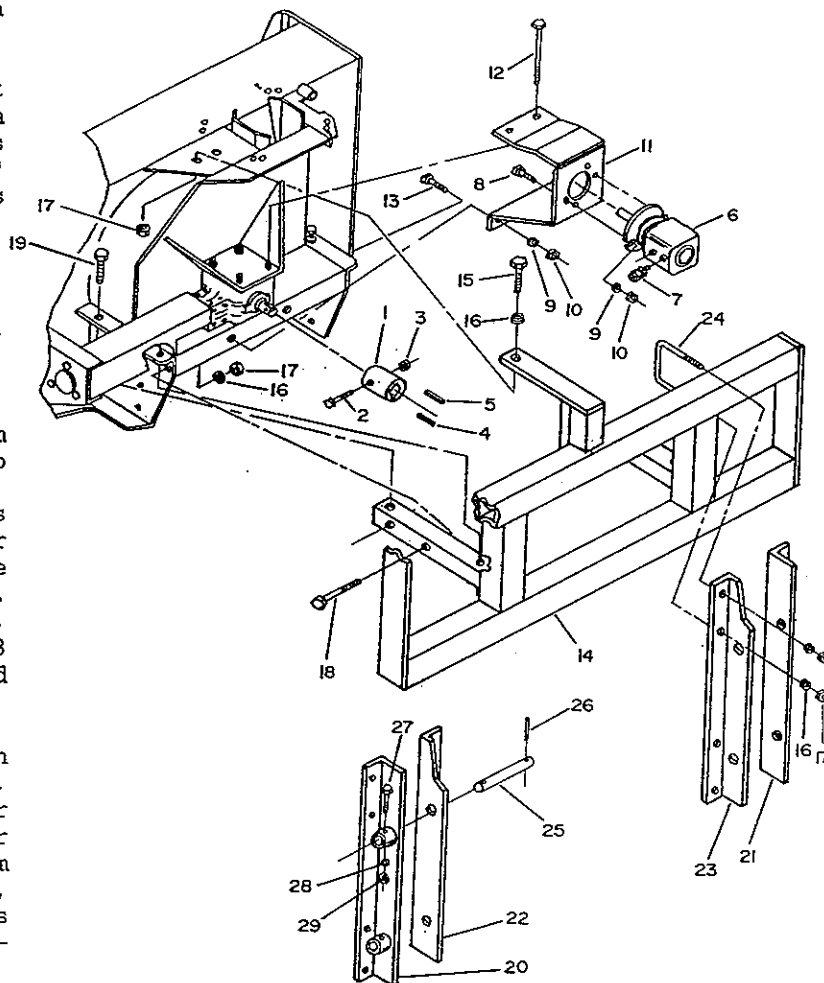

FIGURE 1
- a) Install coupling adaptor (fig.1, item 1) on gear box and fix in place with a 5/16"x 2 3/4"hex. bolt and nylon nut(fig.1, items 2-3), keys 1/4"x 1/4" x 1 3/4"(fig.1, item 4) and 5/16"x 5/16" x 1 3/4" Fig.1, item 5)
- b) Remove two 3/8" x 5" hex. bolts on snowblower and replace by two 3/8" x 5 1/2"hex. bolts. Install hydraulic motor support (fig.1, item 11) on frame with these two 3/8" x 5 1/2"hex. bolts (fig.1, item 12) and two 1/2" x 1" hex. bolts, lockwashers and nuts (fig.1, items 13-9-10).
- c) Install hydraulic motor (fig.1, item 6) on motor support (fig.1, item 11) with two 1/2" x 1 1/2"hex. bolts, lockwashers and nuts (fig.1, items 8-9-10)
- d) Install loader hitch (fig.1, item 14) on snowblower by attaching top flatbar with a 5/8" x 1 1/2"hex., lockwasher and nut (fig.1, items 15-16-17) be sure to place washer on top of flatbar. On each side tubes with four 5/8" x 3 3/4" hex. bolts, lockwashers and nuts (fig.1, items 18-16-17) and two 5/8" x 3 3/4" hex. bolts, lockwashers and nuts (fig.1, items 19-16-17).
- e) Install left and right attach angles and attach fixations (fig.1, items 20-21-22-23) on tractor loader arms. Attach with the four 63/34" x 5 3/8" (25mm)(fig.1, item 25) pins, 1/4" x 1 3/4"roll pins, 1/4" x 2"hex. bolts, lockwashers and nuts (fig.1, items 26-27-28-29).
- i) Place tractor loader arms near loader hitch, center attach angles and fixations (fig.1, items 20-21-22-23)and once in right position fix tightly together with the U-bolts (fig.1, item 24).